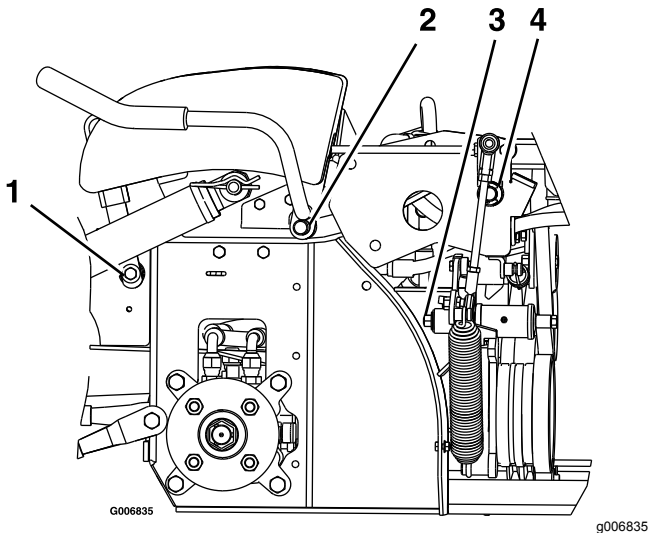

Figure 35
3. Lubricate the bronze bushings on the brake-handle pivot with a spray type lubricant or light oil (Figure 35).